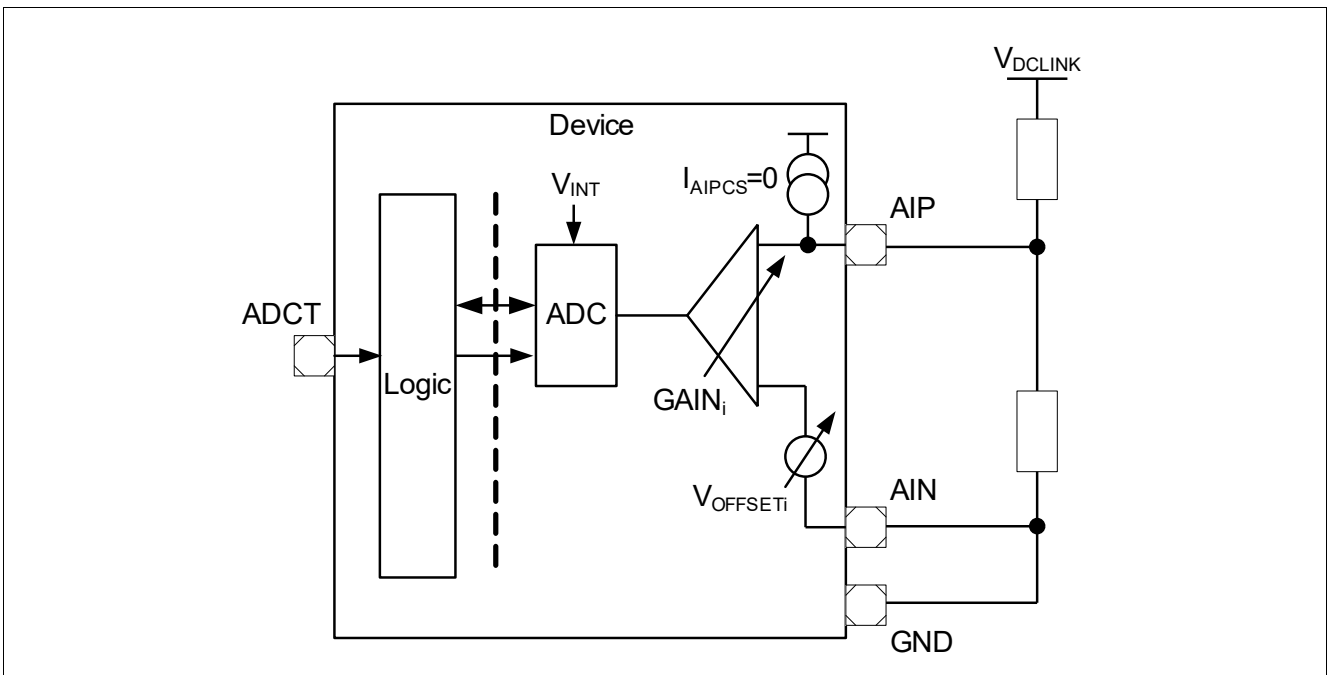

Figure 20 Application example: V_{DCLINK} measurement
- Measuring the high-voltage DC link or phase voltage (**Figure 20**)